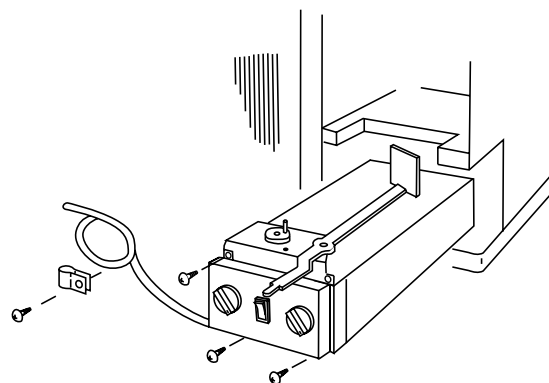

Fig. 9
- (2) Remove screws securing the electrical component box. (Fig. 9)